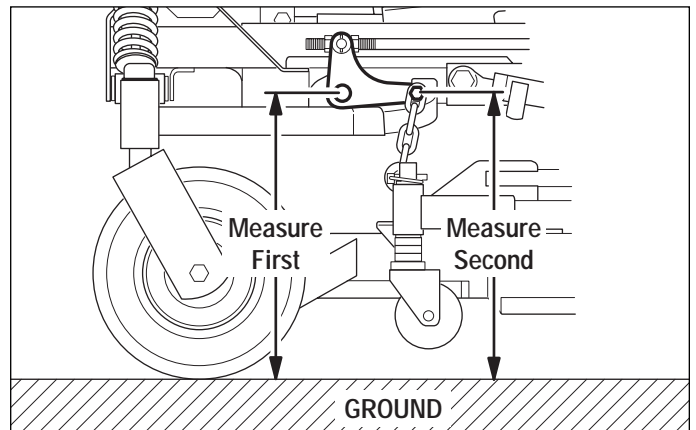

Figure 38. Measure Front Lift Pivot
6. Refer to Figure 38. Measure the distance from the front lift pivot to the ground and from the front chain anchor bolt to the ground. If the measurements are equal, no further adjustment is required. If the measurements are NOT equal (greater than 1/8" (3,17mm) difference), adjustment is required, continue with Step 7.